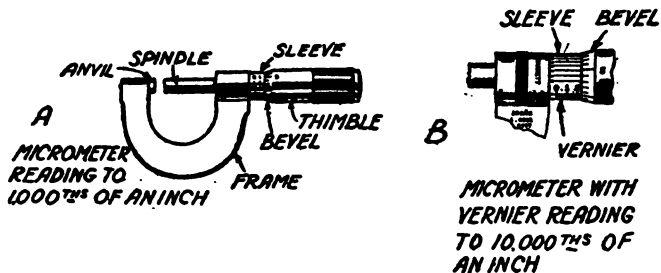

FIG. 5.—THE MICROMETER
A micrometer is formed of (1) a *frame* to which is fixed (2) the *anvil* and through which (3) the *spindle* passes; the spindle is fastened to (4) the *thimble* and these turn in (5) the *sleeve*, as shown at A in Fig. 5.